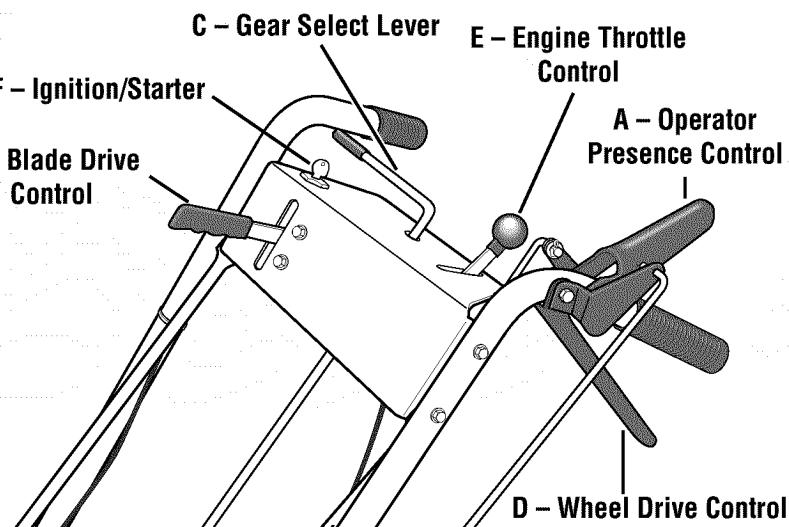

Figure 4-2: Mower Controls
The mower can be manually pushed or pulled by putting the Gear Select Lever (C, Figure 4-2) in N (neutral) and pressing and holding the Operator Presence Control (A, Figure 4-2) down against the handlebar grip.
3. Move Engine Throttle Control (E, Figure 4-2) fully upward to choke setting to start a cold engine or to fast (rabbit) setting to start a warm engine.
- B. Turn ignition key (F, Figure 4-2) fully clockwise to crank engine. To avoid damage to starter motor, do not crank engine for longer than five seconds at a time. Also, allow 15 seconds between each start attempt. If engine fails to start after three attempts, repeat instructions starting with Step 2 (try setting throttle at fast setting).
2. Press and hold Operator Presence Control (A, Figure 4-2) against handlebar grip.
3. Slowly push Blade Drive Control (B, Figure 4-2) fully forward until it stays in the engaged position. The blades are now rotating.
- A. Press and hold Operator Presence Control (A, Figure 4-2) against handlebar grip.
- B. Put the Gear Select Lever (C, Figure 4-2) into one of the numbered settings (1 - Slow, 2 and 3 - Medium, 4
C. To start the wheels, slowly squeeze the Wheel Drive Control (D, Figure 4-2). The harder you squeeze, the faster the wheels will turn. To avoid sudden acceleration, slowly squeeze the lever.
A. Stop the mower blades and wheels by releasing the Operator Presence Control (A, Figure 4-2).
C. Put the Gear Select Lever (C, Figure 4-2) in R (reverse) setting by first moving lever to N (neutral). Then pull lever up, turn it to R position, and release lever.
D. To start the wheels, slowly squeeze Wheel Drive Control (D, Figure 4-2). To avoid sudden acceleration, slowly squeeze the lever.